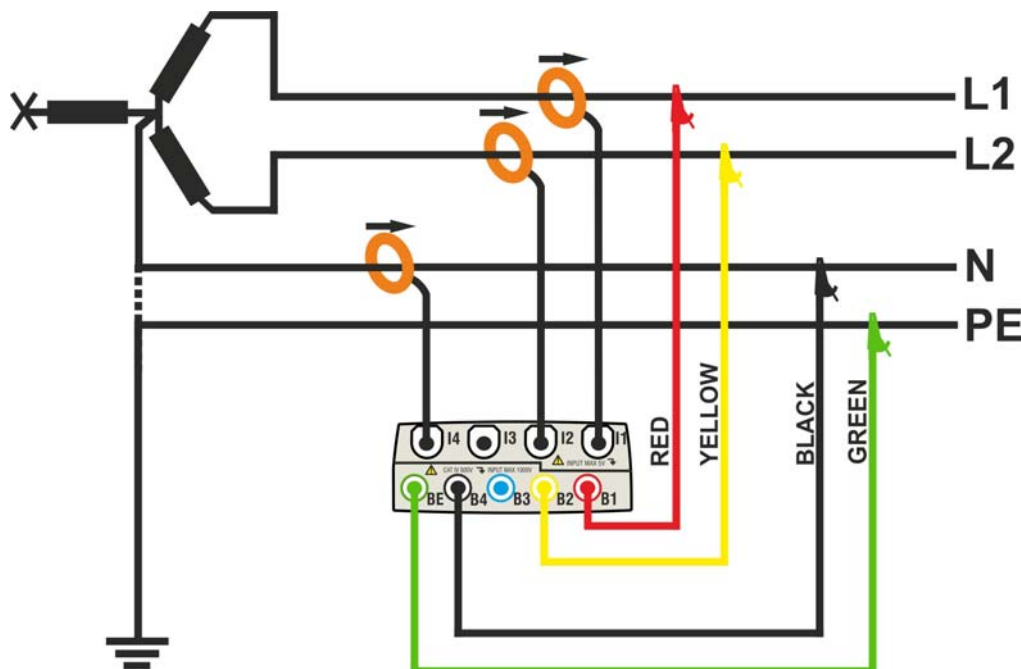

Fig. 129: Meter connection in a two phase 3-wire 3P OY system – ENG type
2. Connect voltage test leads on Phases L1, L2, N and PE cables considering the colours as shown in Fig. 129
3. Connect the transducer current clamps on Phase L1, L2, N cables as shown in Fig. 129 respecting the clamp's arrow direction indicating the current standard sequence from generator to load. **On Real Time Values' section screens (selecting a 3 wire system preliminarily) always verify the positive value of Active Power and the power factor relative to load which should be normally inductive before starting a recording.** Reverse the clamp by 180 degrees on cables in case of negative readings.